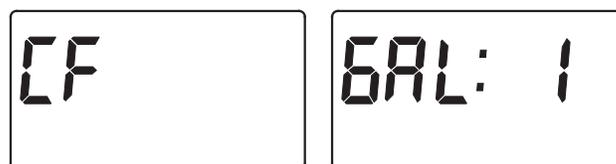
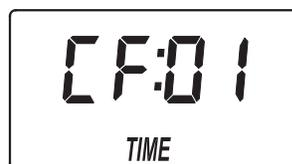

FIG. 30
FIG. 31
4. **CHEMICAL FEEDER TRIP VOLUME:** If you have set the auxiliary output control to CF (Chemical Feeder), you will need to set the volume of water which must flow past the turbine\* before the auxiliary output is turned on. With the alternating screens in Fig. 30 shown, use the  $\triangle$  UP or  $\nabla$  DOWN buttons to set the trip volume, in gallons. Then press the SELECT button to display the screen shown in Fig. 31.